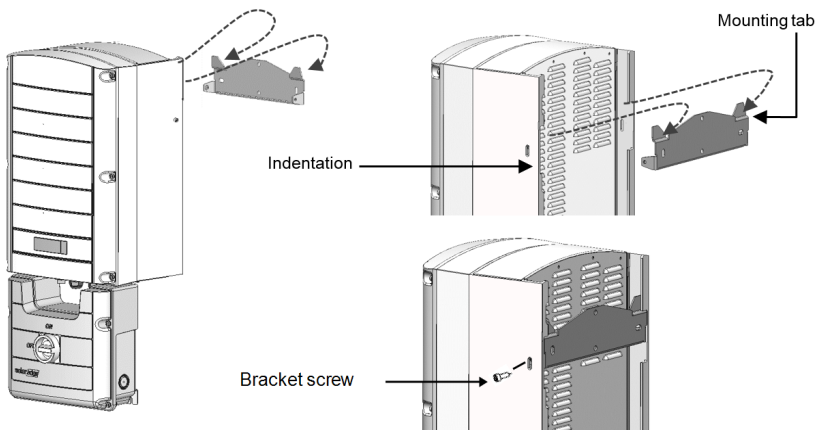

Figure 15: Hanging the inverter on the bracket
- Ensure that the flat edge of the bracket is at the bottom, as in *Figure 15*.
5. Hang the inverter on the bracket (see *Figure 15*): Lift the inverter from the sides, or hold it at the top and bottom of the inverter to lift the unit into place. Do not lift holding the Safety SwitchDC Safety Unit as it may be damaged.
9. Insert the two supplied screws through the outer heat sink fin on both sides of the inverter and into the bracket (see *Figure 15*). Tighten the screws with a torque of 4.0 N*m / 2.9 lb.*ft.